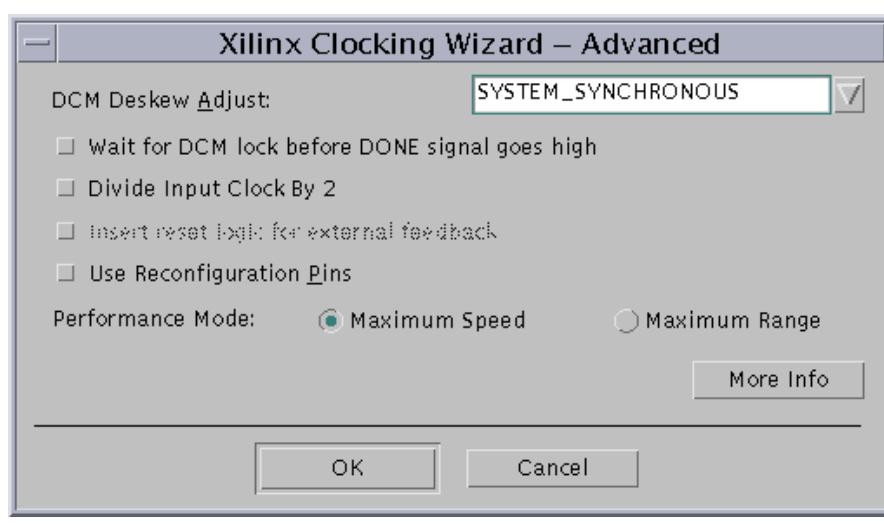

Figure 2-16: Xilinx Clocking Wizard — Advanced
- ◆ After choosing the **Advanced** button, the window shown in Figure 2-16 provides the advanced setting choices.